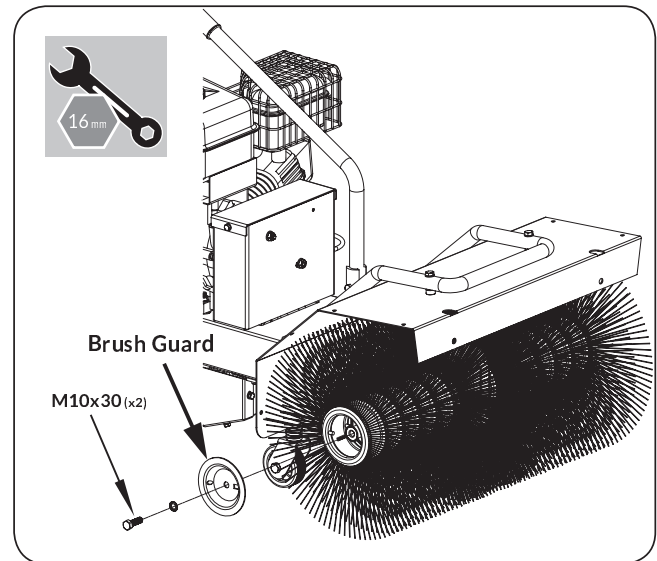

Figure 5a
1. Loosen bolt M10x30 and remove this bolt, washer 10 and brush guard. (See **Figure 5a**).